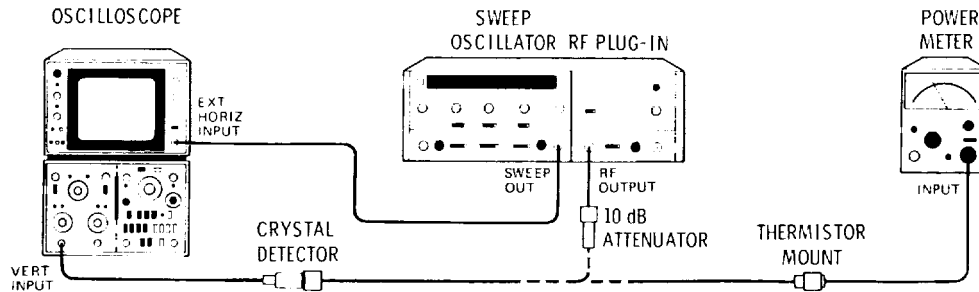

Figure 9-2. Internal Leveling Test Setup
o. Connect equipment as shown in Figure 9-2.